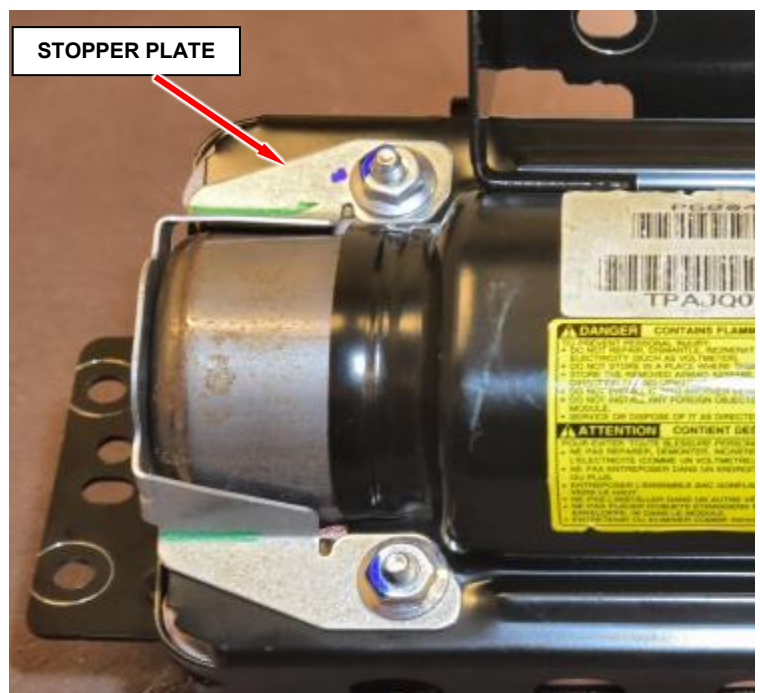

Figure 14 – Stopper Plate
- c. Remove and save stopper plate from housing (Figure 14).
- m. Position the stopper plate to the airbag housing (Figure 14).